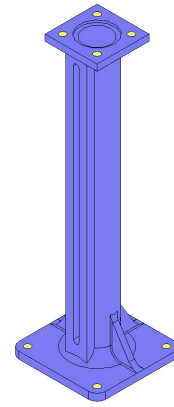

fig. 5
- Straight floor stands (fig. 5)